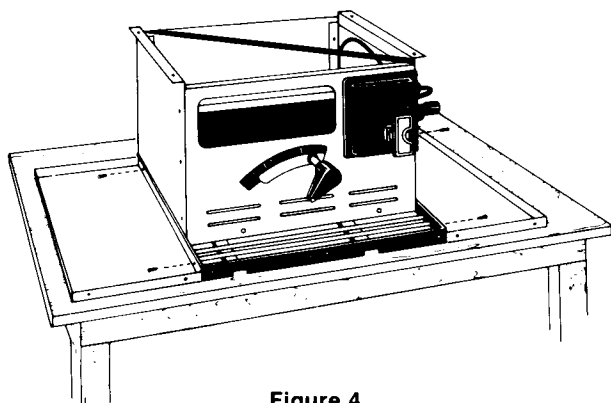

Figure 4
- B. Attach a Table Extension to each side of the table top as shown in **figure 4**. Install 2 self-tapping screws in each side but do not tighten them securely at this time.